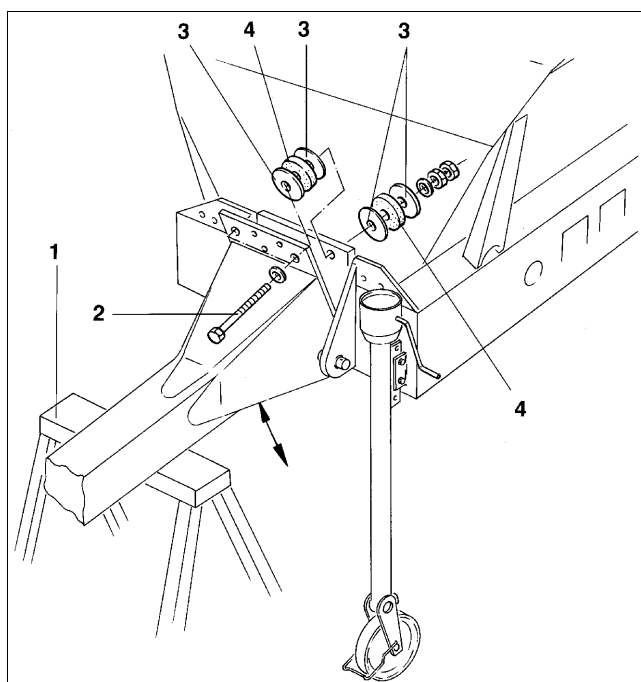

Fig. 11
- Rest the draw bar on a solid trestle (Fig. 11/1) and remove the two securing bolts (Fig. 11/2).
- By changing the position of both sets of spacing discs (Fig. 11/3) evenly, you can adjust the draw bar. The buffer discs (Fig. 11/4) must not be removed. They dampen the jolts transmitted from the tractor to the spreader.